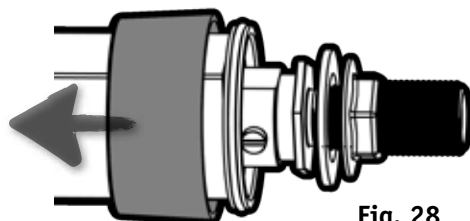

Fig. 28
1) Slide the ISOLATION COVERS 4 away from the THREAD TAILS 3 to expose the ISOLATION VALVES 5 (Fig. 28)